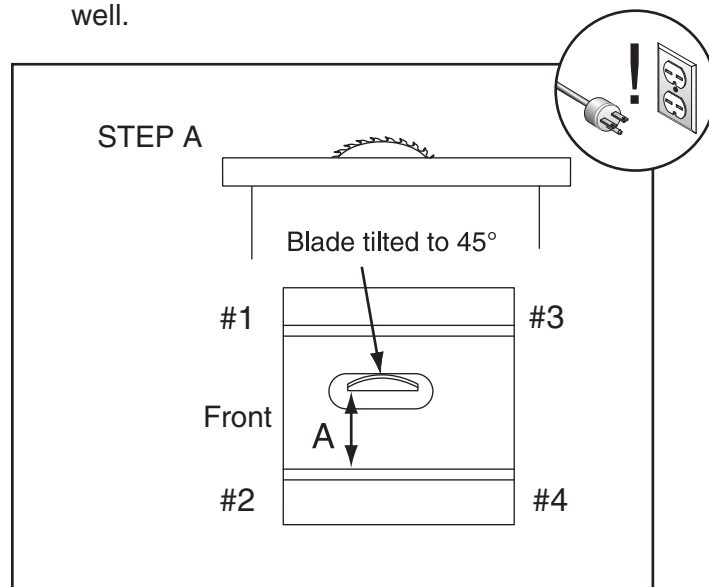

Figure 108. Shim procedure diagram A.
10. Refer to **Figures 108–109** for shim placement. If the distance of A is shorter than B, shim(s) will need to be placed under corners #1 and #2. If the distance of B is shorter than A, shim(s) will need to be placed under corners #3 and #4. Very thin shim stock works well.